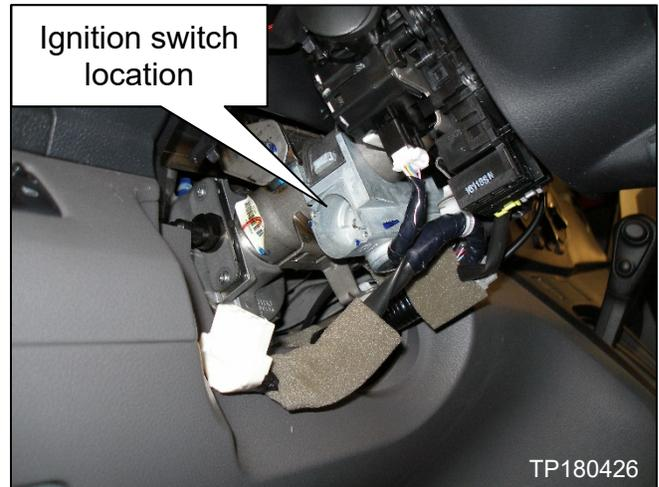

Figure 32
- Figure 32 shows ignition switch already removed.